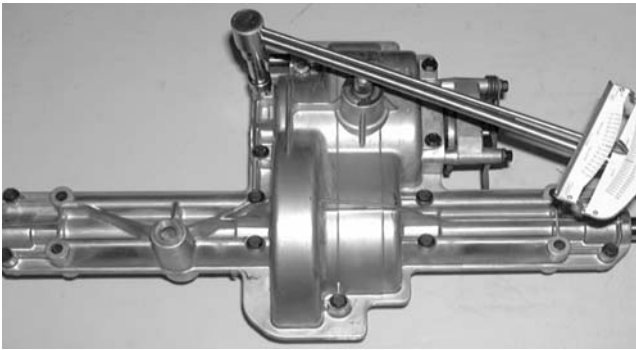

Figure 9-39
- Torque all perimeter case half self tapping screws between 90 and 110 inch-pounds using a 3/8 socket and a torque wrench. See Figure 9-39.